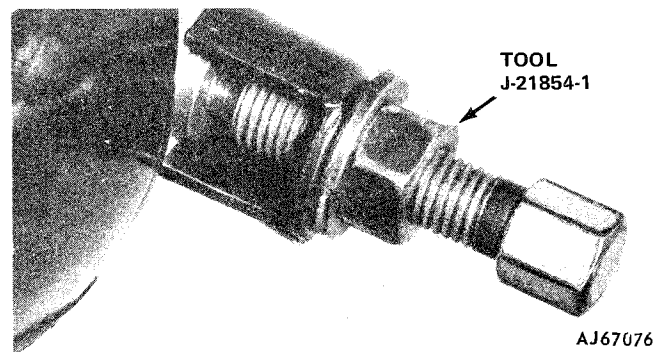

Fig. 2J-35 Pivot Pin Removal
(31) Place housing in center (non-tilt) position.
(32) Remove housing pivot pins using tool J-21854-1 (fig. 2J-35).